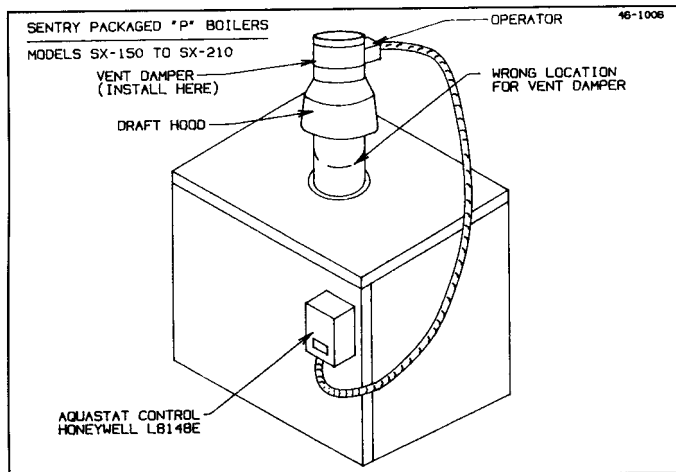
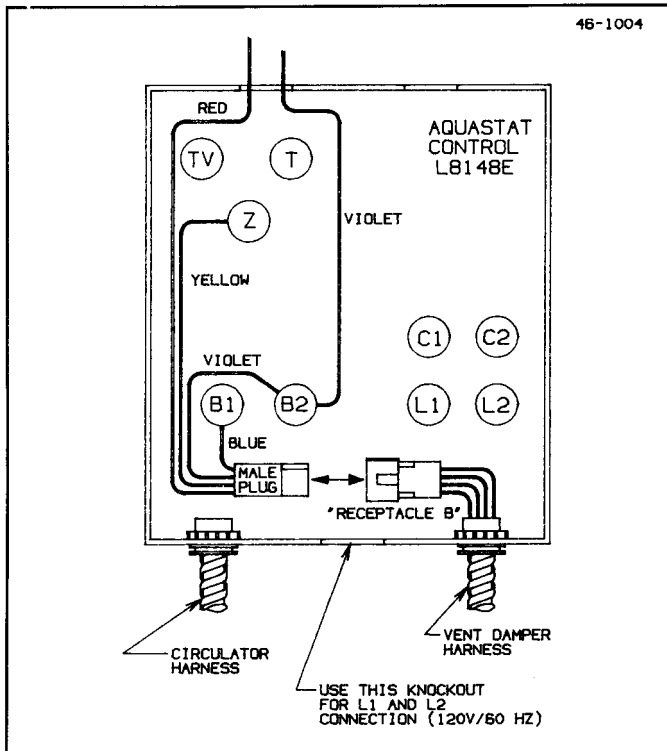

Figure 1. Vertical Installation of Vent Damper on Sentry "SX" Boilers
Figure 6. Connecting "RECEPTACLE B" to "MALE PLUG" inside L8148E Aquastat Box for Sentry Packaged "S" and "SX" boilers.
3. Select a proper, convenient location for vent damper. Vent damper may be installed vertical or horizontal on all models (see figures 1, 2 and 3).
- B. 1. This device must be installed after the boiler draft hood (between the draft hood outlet and the connector to the outdoor chimney or vent) as close to the draft hood as practicable, and without modification of the draft hood or the vent damper. (See figures 1, 2 and 3.)
Remove the cover from the aquastat control. Note the Molex connector (MALE PLUG) inside the control box (see figure 6). Remove knockout in the control housing marked for vent damper, pass "Receptacle B" of vent damper harness through the knockout and attach the flexible metallic connector to the control housing with the nut. Join the two halves of the Molex connector (MALE PLUG AND RECEPTACLE B). Replace the control cover. Attach the other side of vent damper harness to vent damper operator (if not attached) and connect Molex connector to operator receptacle. (See figures 1 and 2.)